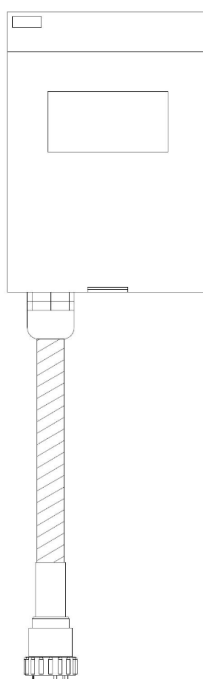

Figure 19: Power Disconnect
6. Place cover back on Disconnect as shown in Figure 19.